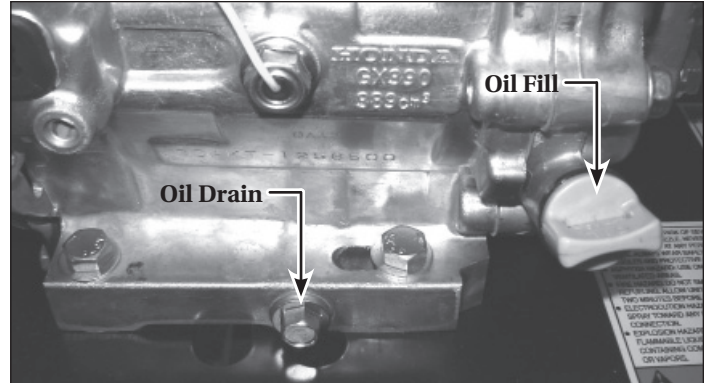

Figure 17 - Oil drain and fill locations
2. Locate and remove the engine oil drain plug (See Figure 17).